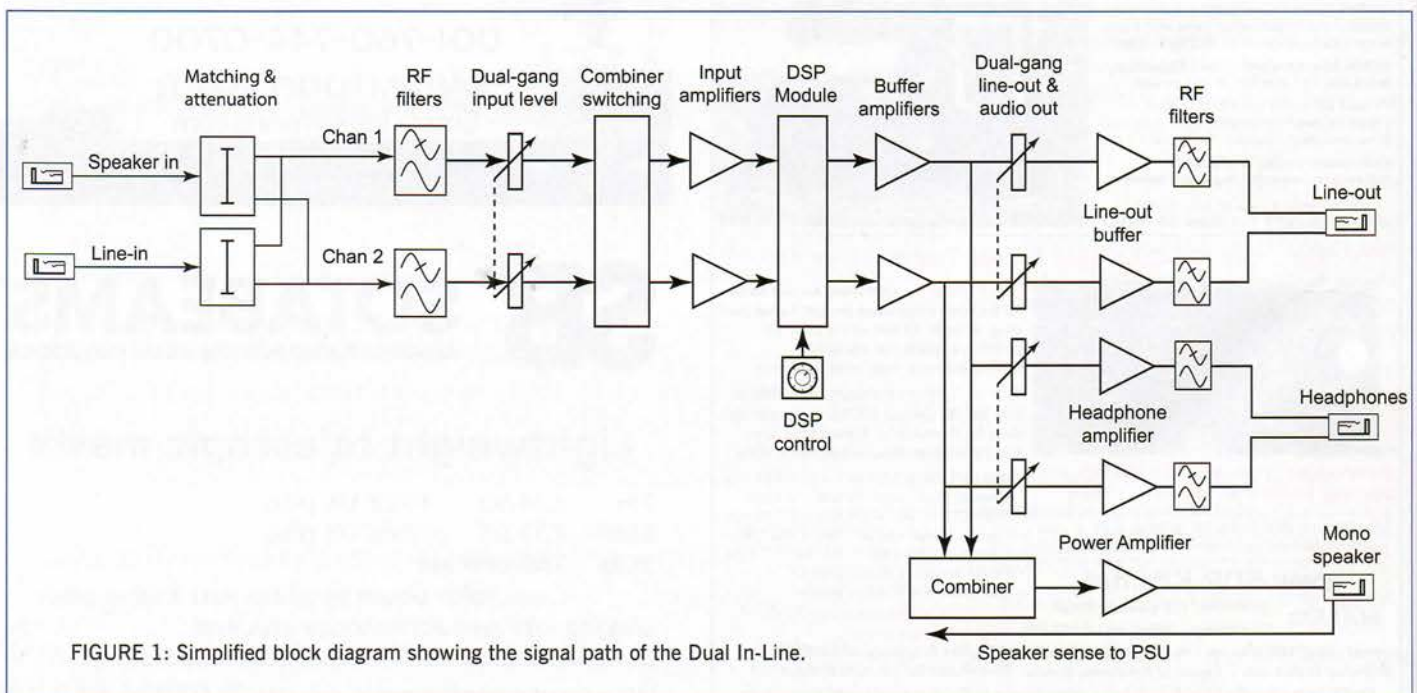

FIGURE 1: Simplified block diagram showing the signal path of the Dual In-Line.
**INSIDE THE DUAL IN-LINE.** As usual, bhi have been very cooperative during the review and allowed me sight of the full circuit diagrams. I have shown a simplified block diagram of the Dual In-Line in Figure 1. As